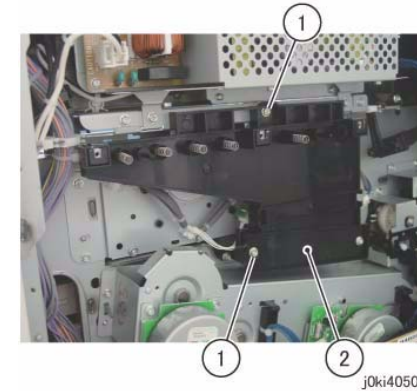

Figure 4 Remove the Conductor Housing Assembly
13. Remove the Conductor Housing Assembly. (Figure 4)